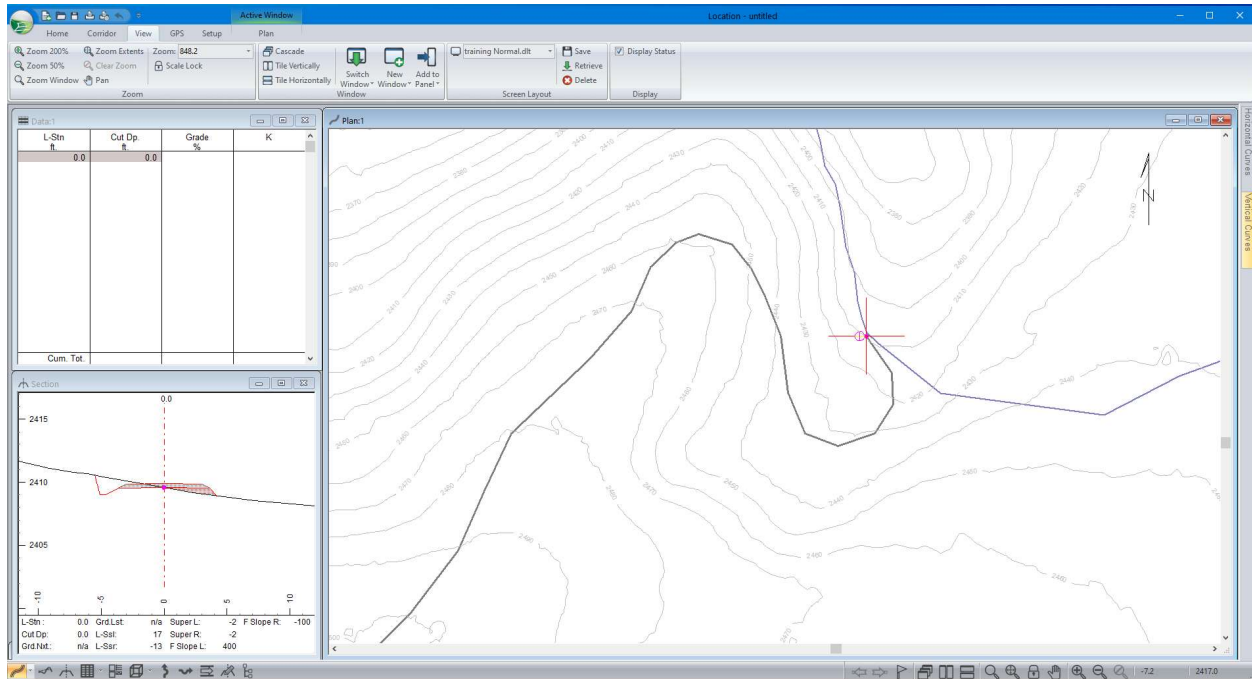

Figure 6-4: Training Normal Screen Layout
6. Use the *Screen Layout* toolbar drop-down (figure above) to open **Training** folder, and select **training Normal.dlt**. The screen now should look similar to Figure 6-4.
On your screen (Figure 6-4 above) you can see the original ground DTM in the Plan background; the line work is faded so it doesn't overwhelm the new alignment features.